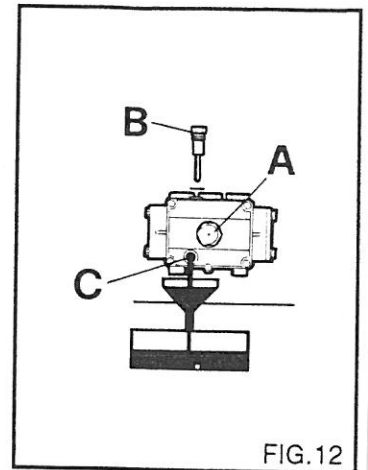

FIG.12
- 2) Unscrew the cap with the dipstick (fig. 12).